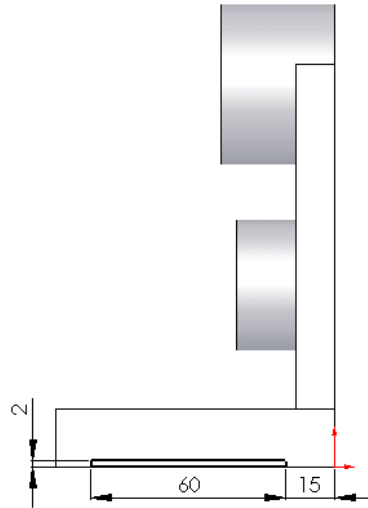

Figure 5-84 Sketch for the cut feature
- Add a cut feature to the model by creating the sketch on the left planar surface, refer to Figures 5-84 and 5-85.
4. Using the standard sketching tools create the sketch for the recess and apply the required relations and dimensions to the sketch. The fully defined sketch for the cut feature is shown in Figure 5-84.